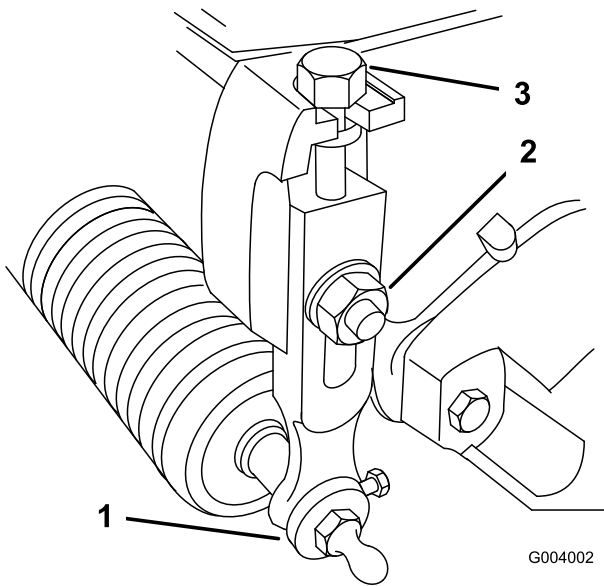

Figure 14
1. Loosen the locknuts securing the height-of-cut arms to the cutting unit side plates (Figure 14).